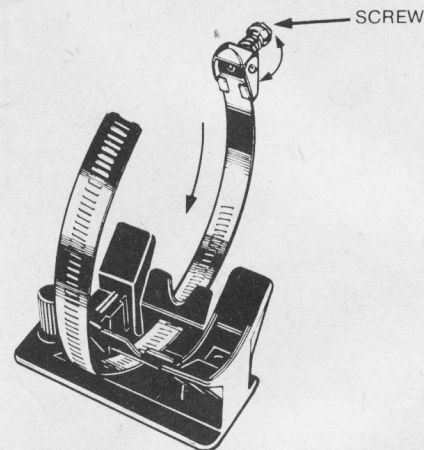

FIGURE 2
- (d) Slide the adjustable strap through the two slots in the drill holder. Fig. 2.